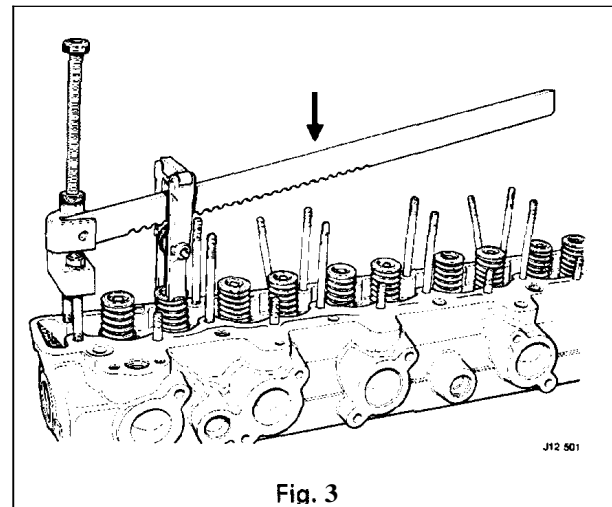

Fig. 3
- Remove the valve springs, using Service Tool JD 61 18C and adapter JD 61 18C-2 (Fig. 3).